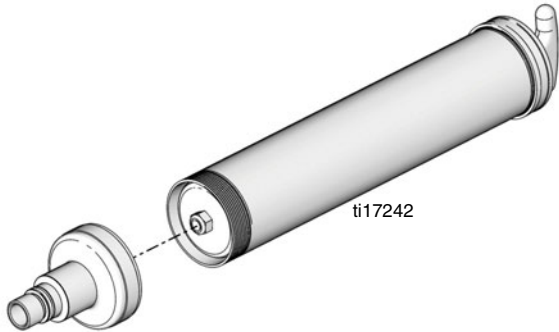

FIG. 1
1. Remove cover from end of gun tube (FIG. 1).